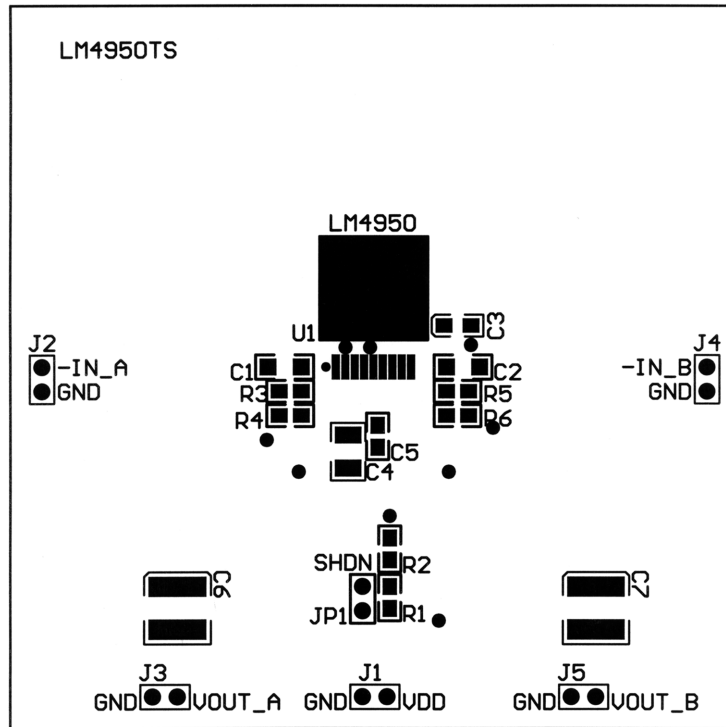
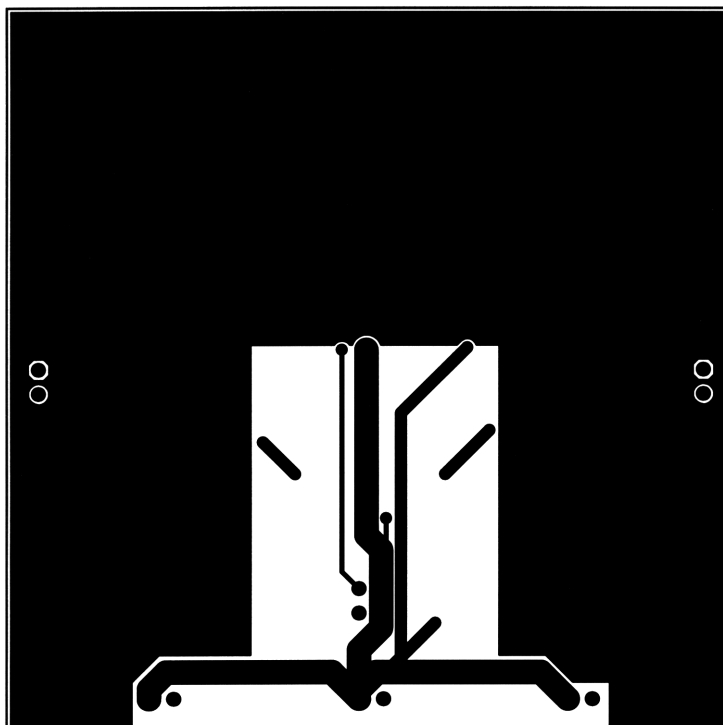

Figure 67. Recommended KTW SE PCB Layout: Top Silkscreen
Figure 69. Recommended KTW SE PCB Layout:
Figure 67 through Figure 69 show the recommended two-layer PC board layout that is optimized for the DDPAK-packaged, SE-configured LM4950 and associated external components. Figure 70 through Figure 72 show the recommended two-layer PC board layout that is optimized for the DDPAK-packaged, BTL-configured LM4950 and associated external components. These circuits are designed for use with an external 12V supply and 4Ω(min)(SE) or 8Ω(min)(BTL) speakers.